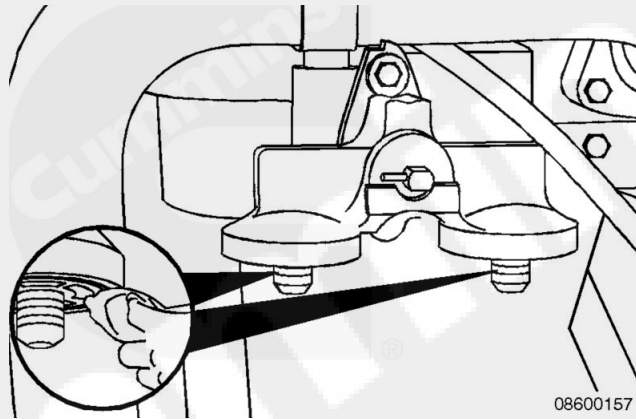

Figure 7-28 Clean the coolant filter heads
4. As shown in Figure 7-28, clean the area around the coolant filter head. Clean the gasket surface of the coolant filter head.